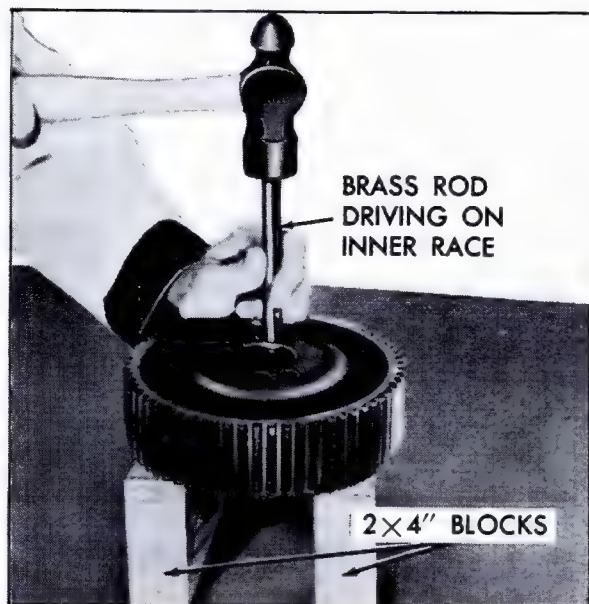

Fig. 7-166 Removing Sprocket Bearing Assembly
c. With a hammer and brass rod, drive the inner race, alternately through each of the access openings, until the bearing assembly is removed from the sprocket hub, Fig. 7-166.